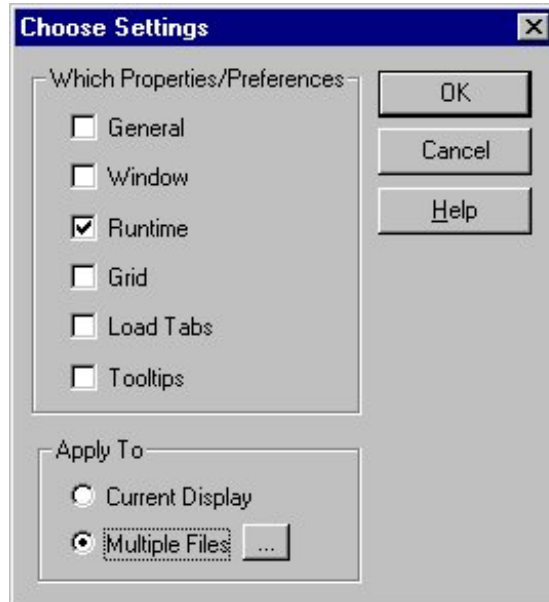

Figure G-2: Choose Settings Dialog Box
1. On the Format menu, select Apply Preferences to Properties. The Choose Settings Dialog Box appears (Figure G-2).